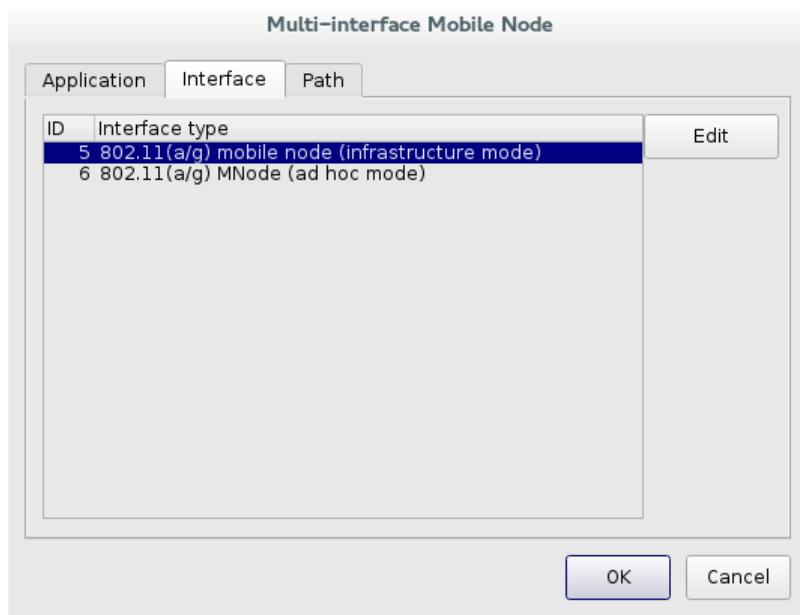

Figure 5.1.16 The multi-interface mobile node4
- ii. Node4: Double click multi-interface mobile node4 and choose tab "Interface". There are two network interfaces such as figure 5.1.16. Select interface ID 5: IEEE 802.11(a/g) mobile node (infrastructure mode) with click “Edit” button, then add a command line: “ttcp -r -s -u -p 8000”